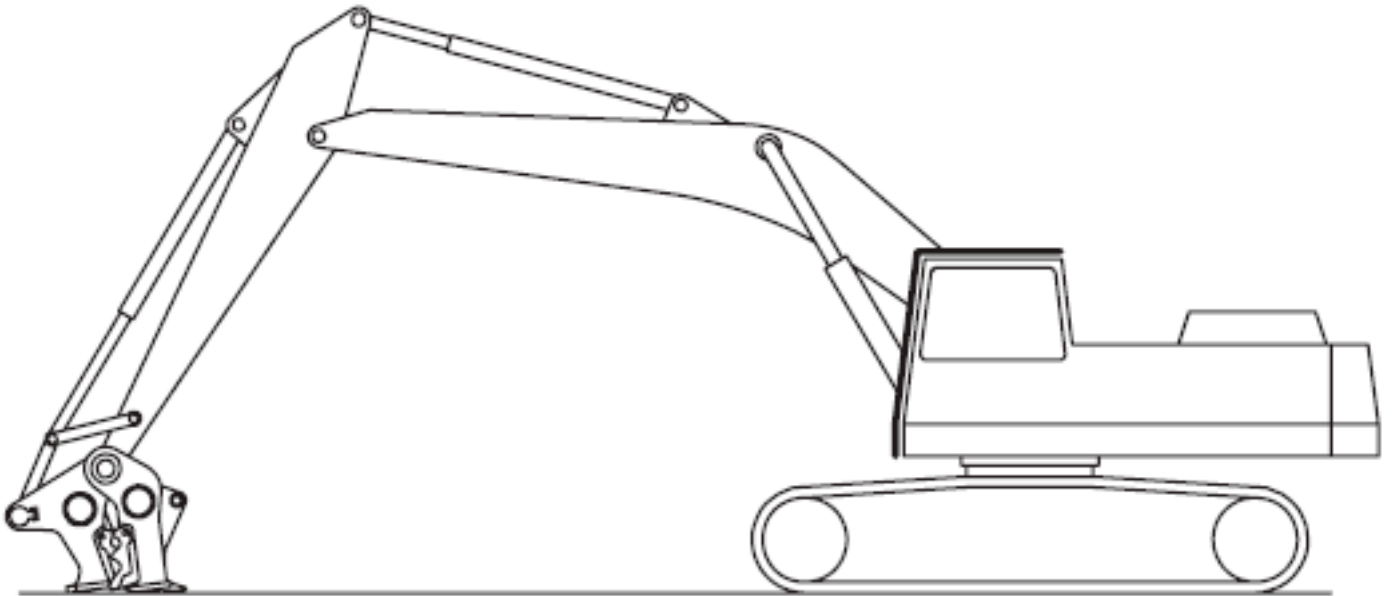

FIGURE 3-1
1. Position the pulverizer on a flat, level surface as shown in figure 3-1. Remove the main pin and link pin.
2. With all personnel standing clear, walk the excavator into position and line up the excavator stick tip with the main pivot of the pulverizer as shown in figure 3-1.